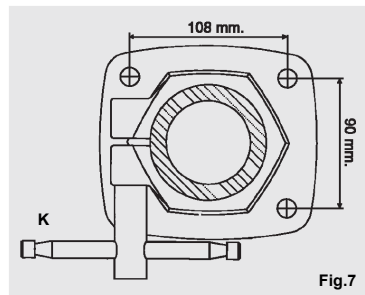

Fig.7
For the distance between the holes in the bench, pay attention to Fig.7.
Make sure the locking handle (K) that secures the vertical column to the base has been properly tightened (see Fig.7).